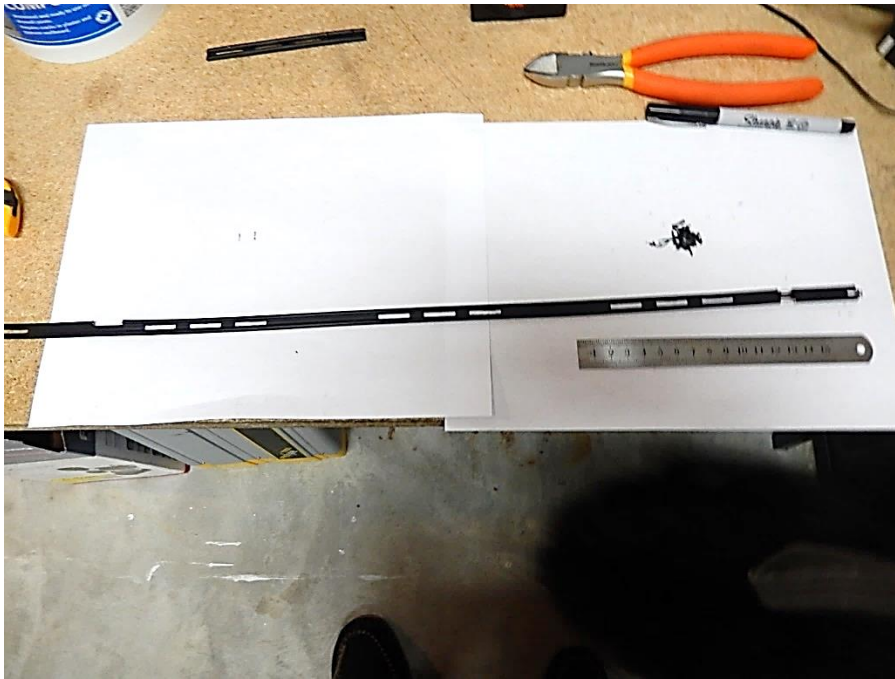

Figure 12
12. Now you have this. (fig 12)